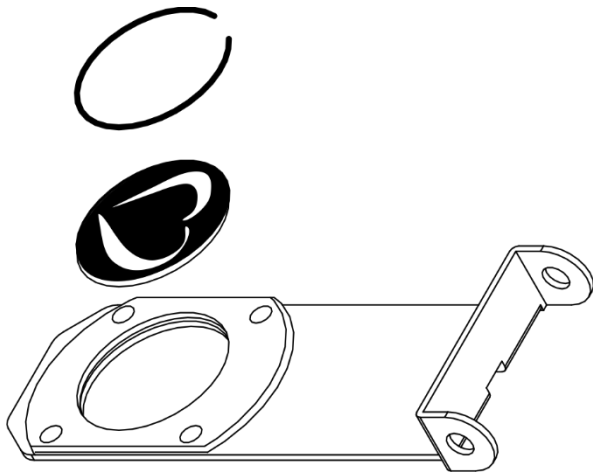

Fig. 27
- 01) Remove the retaining ring from the **gobo holder (13)** with needle-nose pliers or a similar sharp tool.
- 02) Change the metal gobo. Make sure that the painted (black) side of the gobo is facing upwards as shown in Fig. 27. When inserted back into the gobo slot, the painted (black) side should be facing the **lens (08)**.